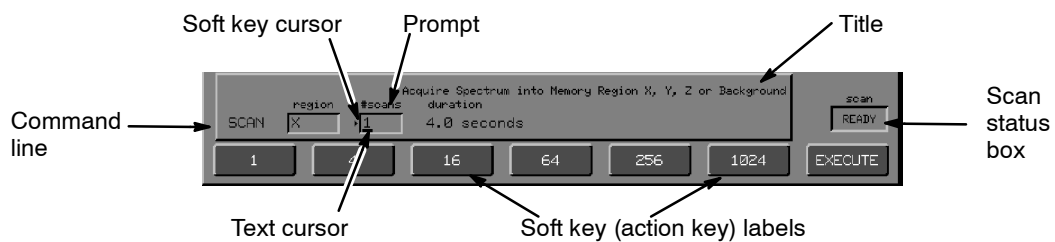

Figure 1-14 Command Line and Soft Keys for the Scan Command
Figure 1-14 shows the user interaction for the Scan command. Notice the following features:
- *Command Line:* The name of the command you are entering appears at the beginning of the command line. The box around the entire command line has disappeared; instead, each field where you can enter information is boxed separately. The boxes usually contain default entries, which you can change. (An unboxed field, such as **duration** in Figure 1-14, requires no entry; it provides you with information.)
- *Cursor(s):* Either or both of two cursors may appear in the command line during a user interaction. Both appear at the **#scans** field in Figure 1-14. *The soft key cursor, an arrowhead just to the left of a field, identifies the active field when there is more than one interactive field, and indicates that you can use a soft key to make, or change, an entry in that field.*
- *Soft Key Labels:* The soft key labels in the bottom line show possible entries for the field to which the soft key cursor points. In Figure 1-14, all the keys are action keys.